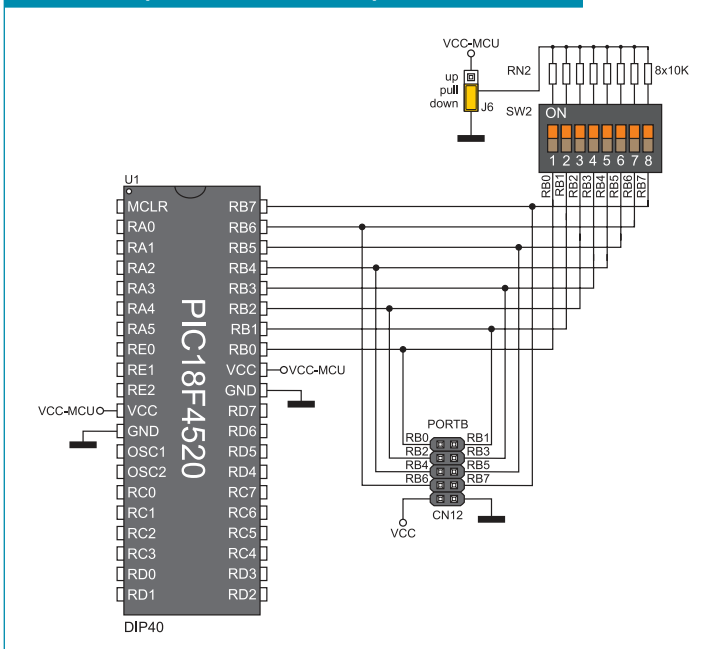

Figure 13-4: Port PORTB connection schematic
Refer to figure 13-4. Port PORTB pins are driven low (0). It means that jumper J6 is in pull-down position, whereas switches on the DIP switch SW2 are in the ON position.